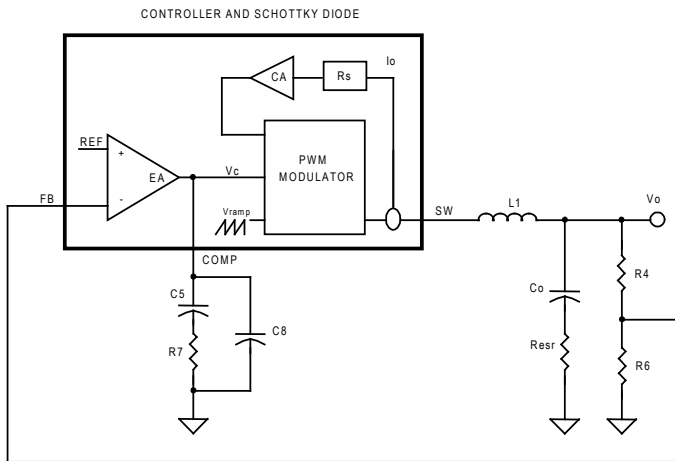

Figure 8 — Block diagram of control loops
The block diagram in Figure 8 shows the control loops of a buck converter with the SC4525F. The inner loop (current loop) consists of a current sensing resistor ($R_s=3.53m\Omega$) and a current amplifier (CA) with gain ($G_{CA}=18.5$). The outer loop (voltage loop) consists of an error amplifier (EA), a PWM modulator, and a LC filter.
For a converter with switching frequency F_{SW} output inductance L_1 , output capacitance C_o and loading R , the control (V_c) to output (V_o) transfer function in Figure 8 is given by: